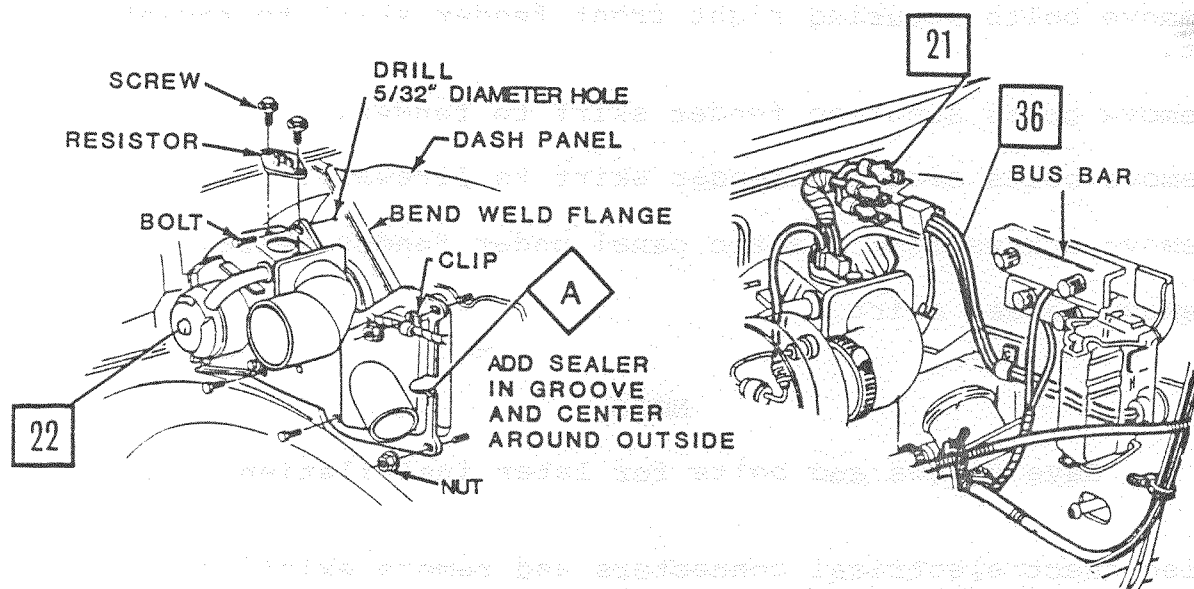

Figure 6.
52. Disconnect electrical connectors and remove existing blower assembly and air inlet assembly (Figure 6.).
55. Place new air inlet blower assembly on firewall, and mark and drill a 5/32 inch hole in left top of assembly with missing hole in firewall (Figure 6.). Remove blower assembly after drilling hole.
56. Install RTV sealer on new air inlet blower assembly and install (Figure 6.). Tighten to 20-30 lb.-in. (2.3-3.4 Nm).
58. Transfer resistor from old blower assembly to new blower assembly and seal with RTV sealer (Figure 6.). Tighten to 10-15 lb.-in. (1.2-1.6 Nm).
59. Install new blower wire assembly to resistor and connector to existing electrical connectors (Figure 6.).